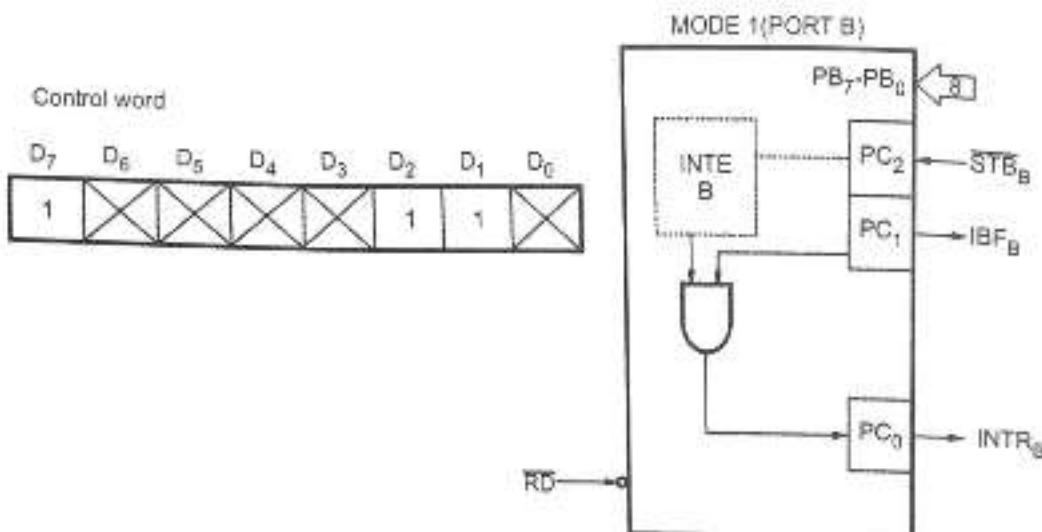

Fig. 3.4.9 Port B in mode 1
* Fig. 3.4.9 shows Port B as an input port (when in Mode 1).